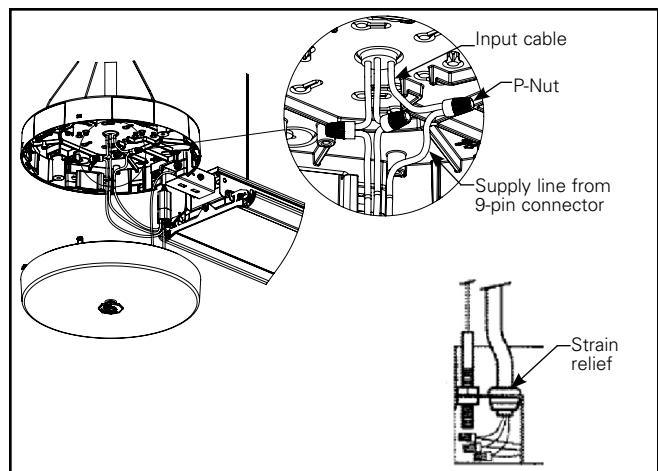

Figure 9.
- Using approved wire connectors, Connect power and dimming wires, sensor cable to power pack and/or EM test switch cable (Figure 9). Secure power feed with the strain relief. Confirm all wiring connections are correct.